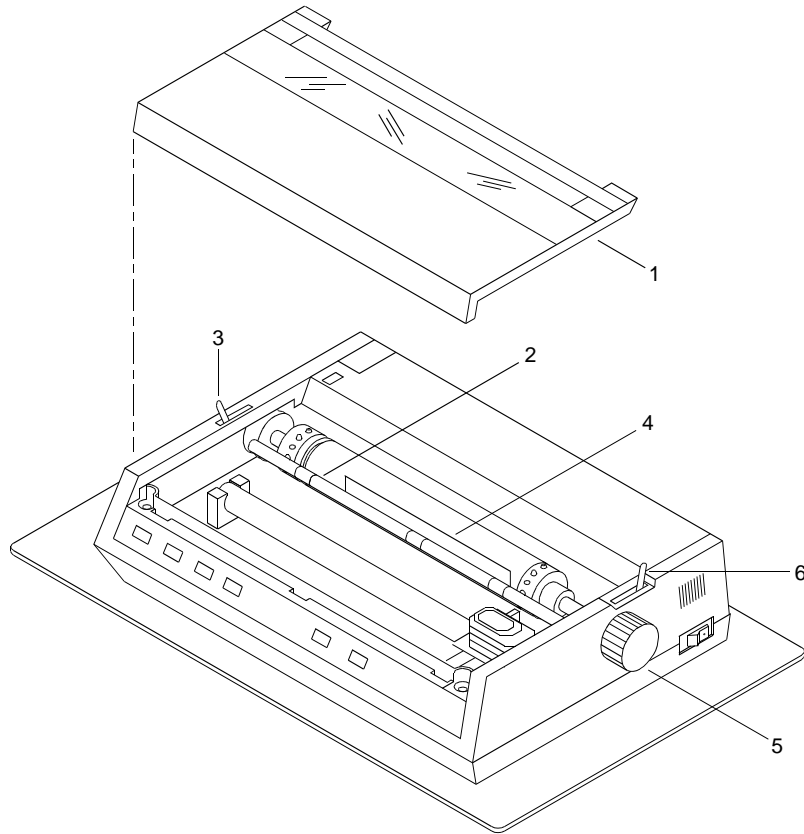

Figure 4. Printer Access Cover
- Remove the printer access cover (figure 4, item 1) and raise the paper bail (figure 4, item 2) by moving the bail lever (figure 4, item 3) forward.
- Roll the paper (figure 4, item 4) forward by rotating the platen knob (figure 4, item 5) clockwise.
- Ensure the paper separator lever (figure 4, item 6) is in the aft (back) position.
- Lower the paper bail (figure 4, item 2) by placing the bail lever (figure 4, item 3) to the aft position and replace the printer access cover (figure 4, item 1).